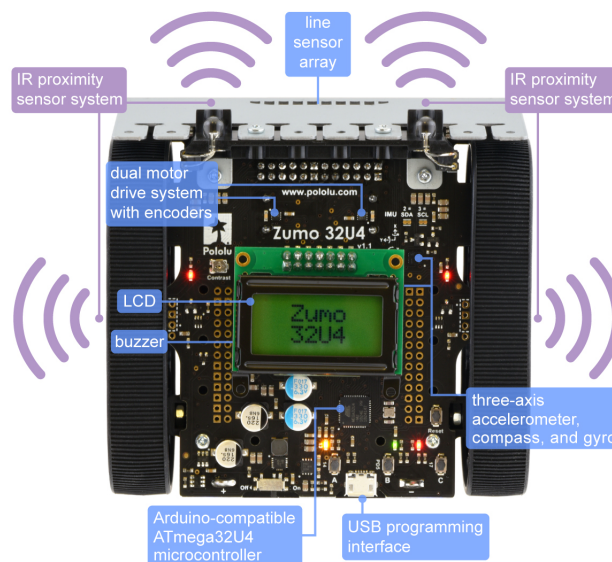

Figure 1.1: Zumo 32U4 robot from Pololu and its main components
- a Zumo 32U4 Robot from Pololu as shown in Figure 1.1;
The Zumo 32U4 has three user pushbuttons, labeled A, B, and C, located along the rear edge of the main board close to the USB programming interface as shown in Figure 1.1.